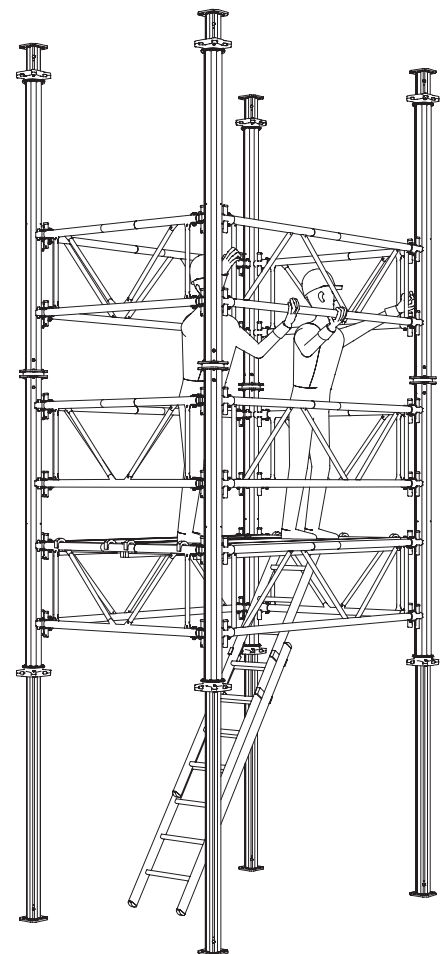

Fig. A4.04
- In order to mount the next prop and frame plane, an assembly level must be installed, e.g. Decks MP (16). (Fig. A4.04)
- Fit the MULTIPROP MP with the Inner Tube inserted. Spindle out to the required length only after bracing has taken place with Frames MP MRK. (Fig. A4.04)